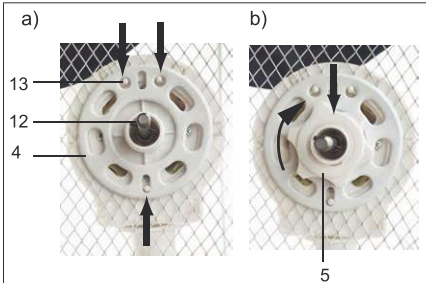

Fig. 14: Mounting of rear guard grille
4. Slide the rear guard grille (4) onto the axle (12) and the centering pins (13) of the engine block. See Fig. 14 a).
5. Slide the hexagon nut (5) onto the axle in front of the rear guard grille and tighten clockwise. See Fig. 14 b).